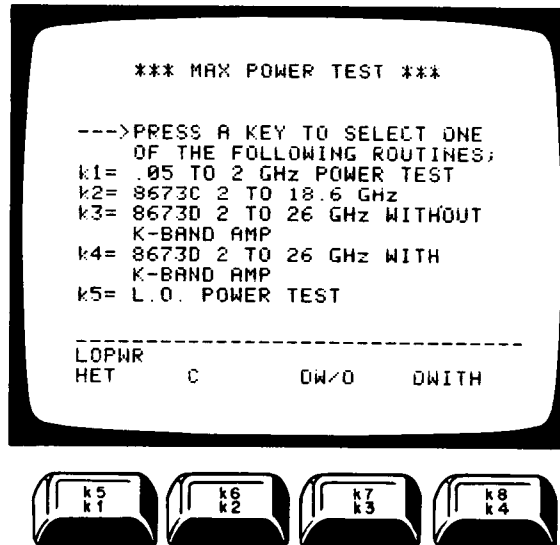

Figure 5-30. Maximum Power Menu
21. When the Utility Menu is displayed press K1 to display the Max Power Menu as in Figure 5-30.